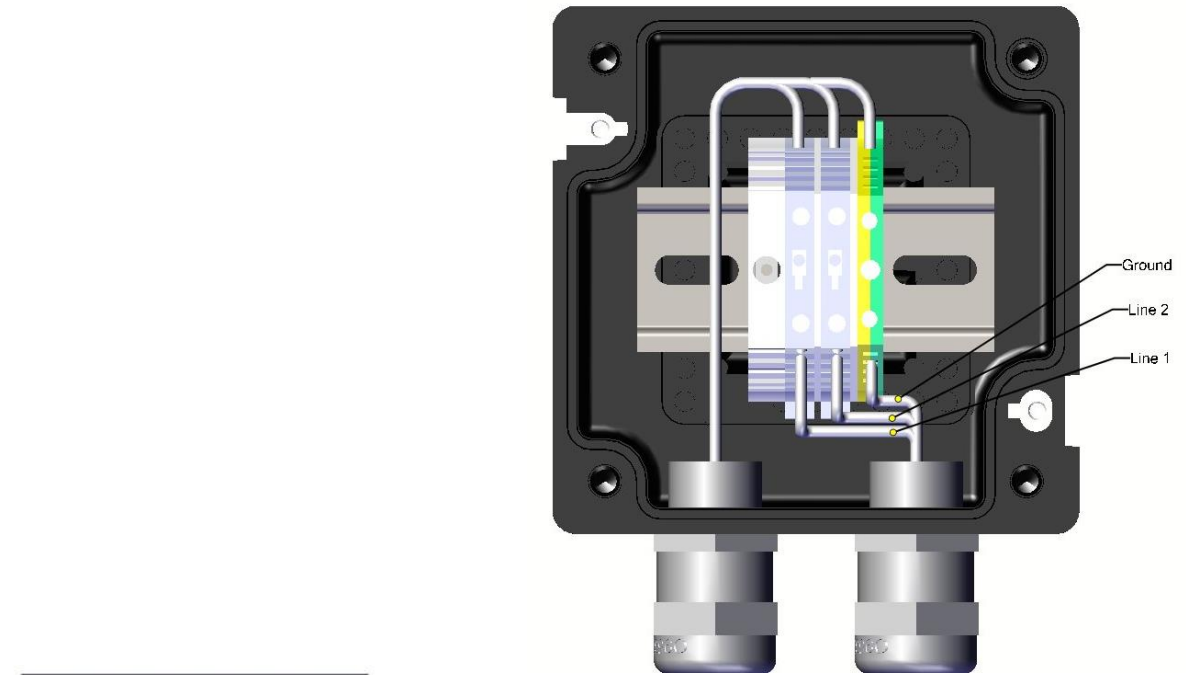

Figure 2: Customer Wiring
3. Remove the (4) terminal box cover screws and remove the cover. (See Figure 2: Customer Wiring pg:9). The terminal block will be used for power.
7. Insert wires into the terminal blocks as shown, Line1, Line 2, and Ground. After inserting wire, tighten terminal block screws. Check that wires are secure in terminal block and are connected to the correct terminals (See Figure 2: Customer Wiring pg:9)